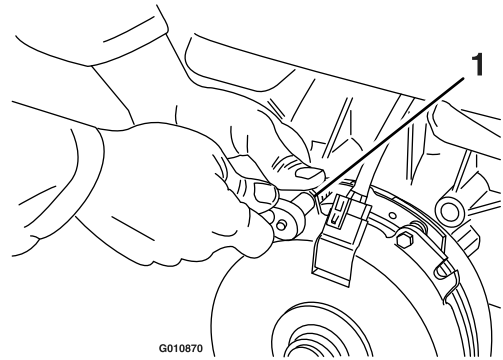

Figure 71
- A. Loosen both brake mounting bolts 1/2 to 1 full turn as shown in Figure 71.